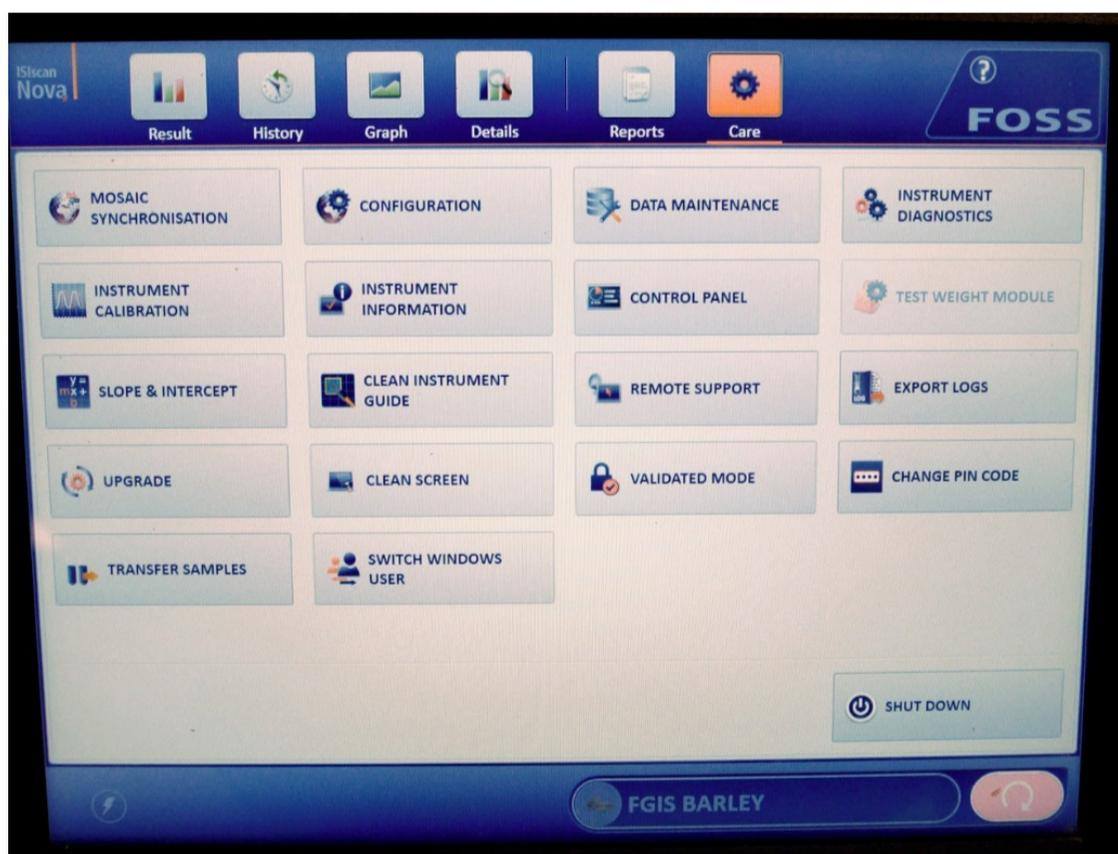

Figure 1. FOSS Nova display showing the Care menu options.
- (1) Select the Care button to access the Care menu options (refer to Figure 1).
- (2) Select the Slope & Intercept button.
- (3) Enter the PIN code.
- (4) Select the Product (calibration) that requires the adjustment from the drop down menu.
- (5) Highlight the Intercept field by tapping the number itself.
- (6) Enter the new intercept value from ECT.
- (7) Select OK to save the change.
- (8) Select OK to exit the Slope & Intercept menu.
- (2) Select the Configuration button.
- (3) Click on the Import tab at the top of the window.
- (4) Press Edit, and then press OK to launch Mosaic Solo.
- (5) Enter the Admin password.
- (6) Select the Products tab at the bottom left side of the screen.
- (7) Select the product you wish to hide on the upper left box.
- (8) Select (check on to view)/ deselect (check off to hide) the Active checkbox above the description box.
- (9) Select the Save button in the upper left hand corner.
- (10) Exit the window by pressing the X on the upper right corner of the screen.
- (11) Press OK on the Import/Edit window.
- (6) Select the Parameter Profiles tab at the bottom left side of the screen.
- (7) Change the number in the Number of Decimals field to the desired number of decimal places.
- (8) Select the Save button in the upper left hand corner.
- (9) Exit the window by pressing the X on the upper right corner of the screen.
- (10) Press OK on the Import/Edit window.